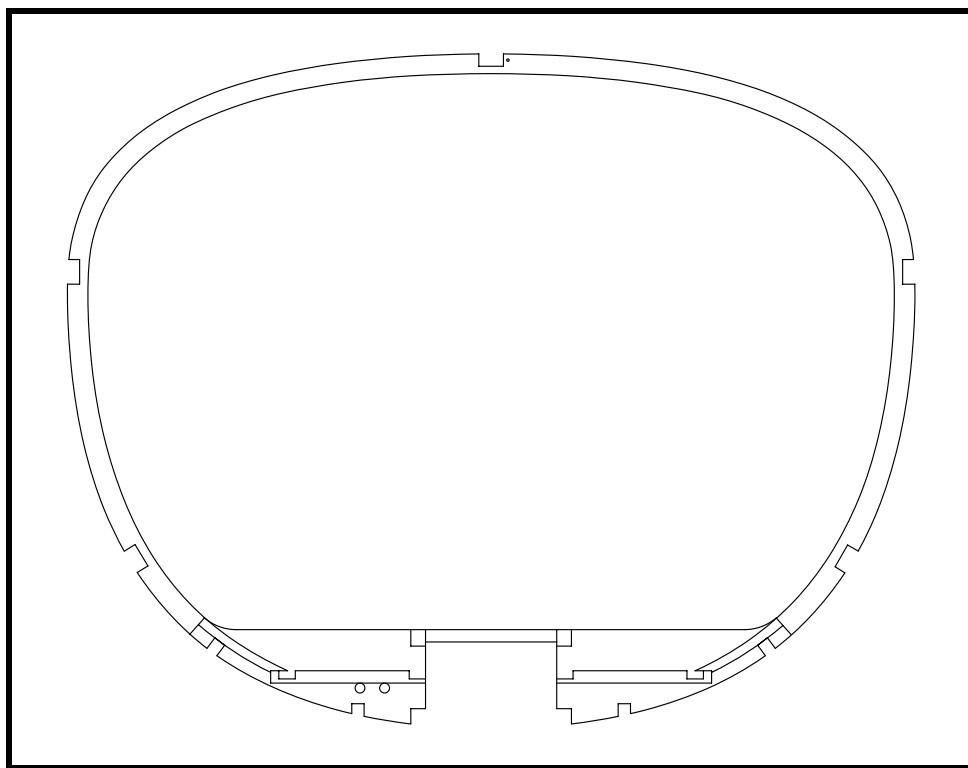

Figure 30
- ❑ Locate the battery cable holes on the left side of the aircraft. Drill these holes through the plywood for both front and aft faces. If the lower floor is to be installed (see Drawing No. 315), these holes should be at W.L. -490 to put them under the floor but above the lamination. This can be seen in Figure 30.
- ❑ Install saddle gussets on the aft face of the frame to support the 20x10 flooring supports that are installed between fuselage frame No. 2 and 3. See Drawing No. 315. Because of the location of the outboard exhaust port framing strips, these saddle gussets are partially cut open at the bottom. If the lower floor is installed (see Figure 30), then these gussets are not needed.